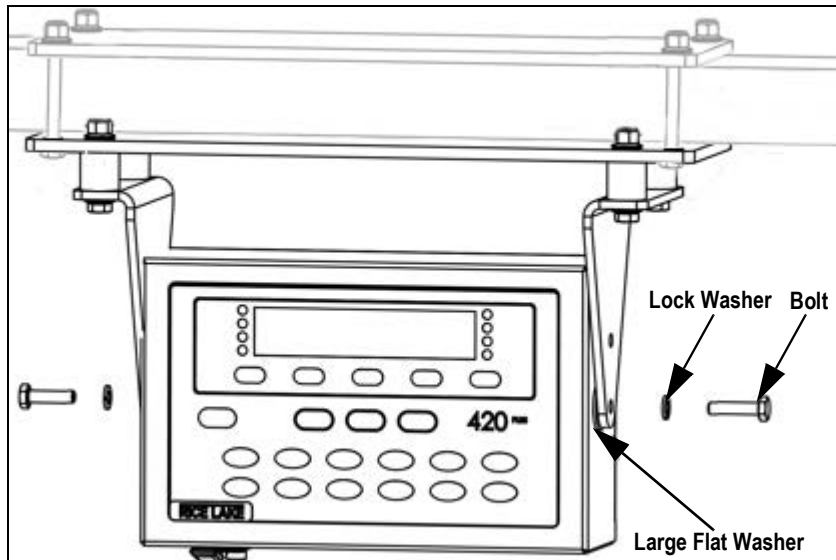

Figure 6. Mount the CLS-420 Indicator
5. Secure the mount bracket to the CLS-420 Indicator with lock washers and bolts (Figure 6).